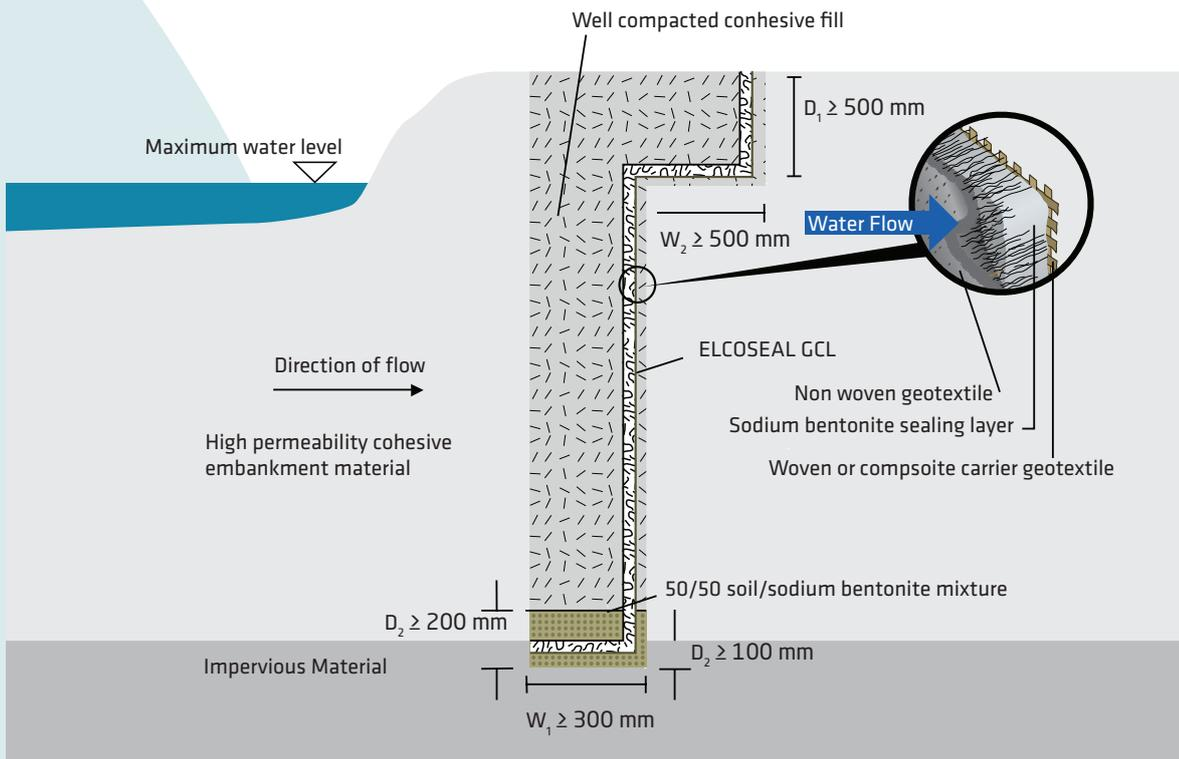

Figure 11 ELCOSEAL cut off trench detail for cohesive soils
- Cut-off trenches using ELCOSEAL GCL in cohesive soil are typically constructed as shown in Figure 11;